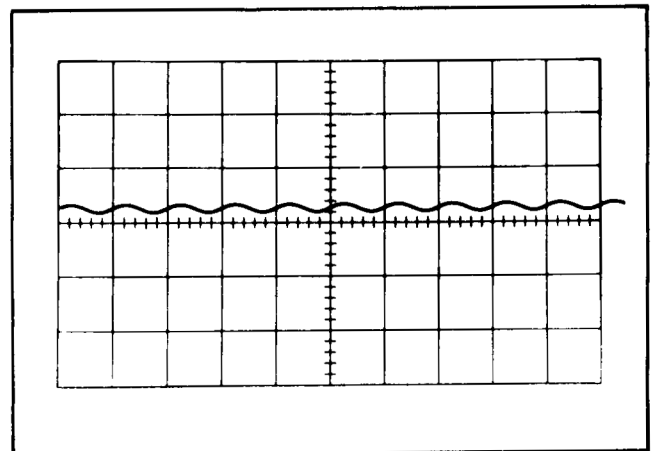

Fig. 6-38. Typical crt display when checking high-frequency reject operation at 50 kc.
- e. Check—Stable display can be obtained (see Fig. 6-38).
- k. Check—Stable display can be obtained (see Fig. 6-38).